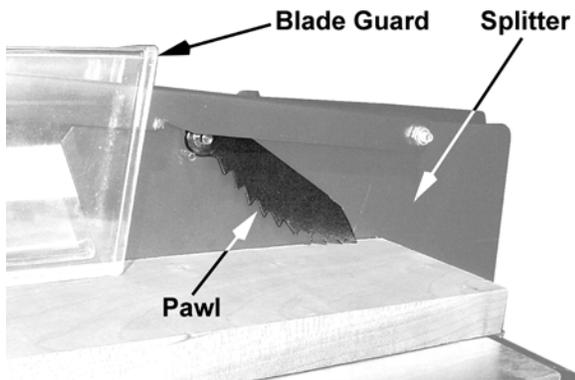

Figure 34
- As the machine receives use, the operation of the anti-kickback pawls should be checked periodically (Figure 34). If the pawls do not stop the reverse motion of a workpiece, sharpen all the points.